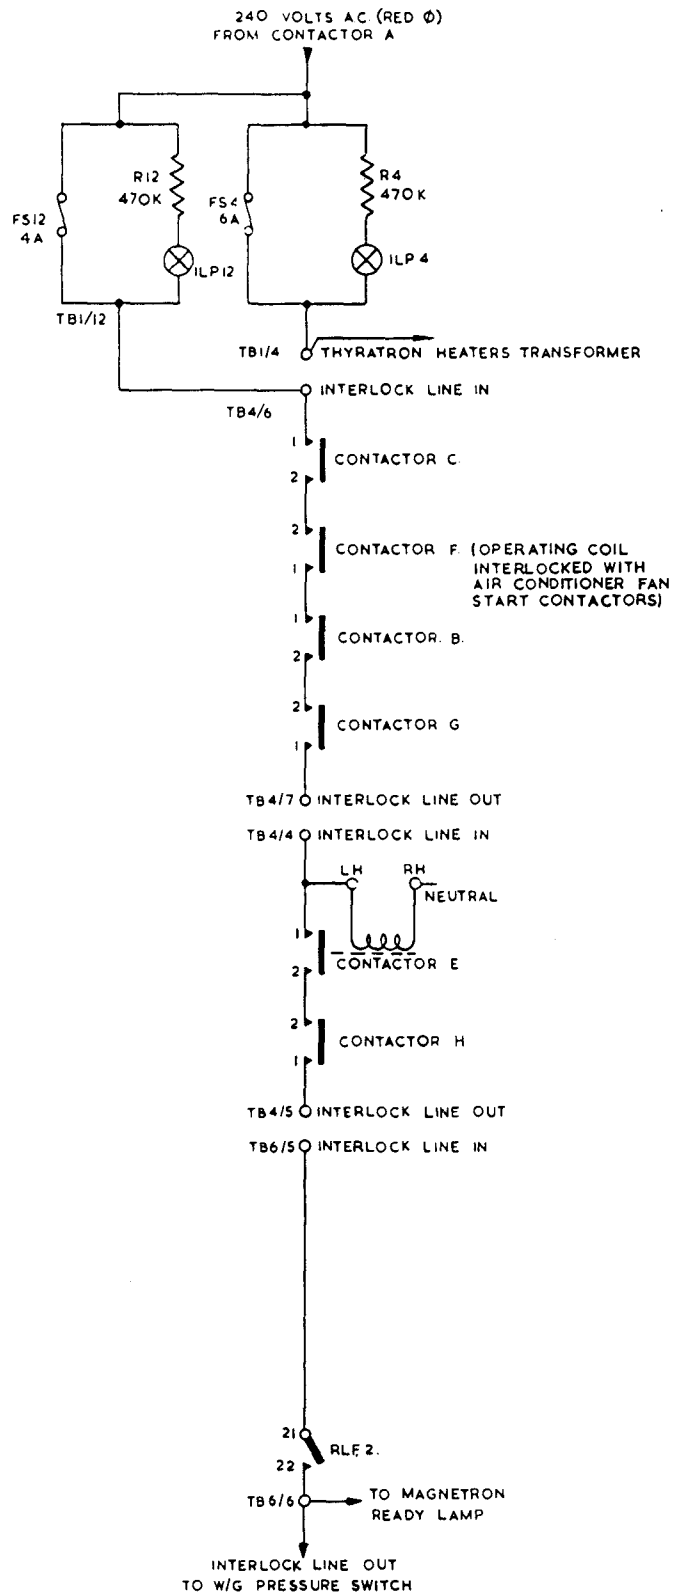

Fig.5 Circuit breaker assembly: interlock circuit
20. A 240V a.c. supply from fuse FS12 is routed via the series-connected interlock devices and is finally fed to operate the e.h.t. contactor (Chap. 1). The auxiliary contacts of contactors B,C,E,F,G and H, form part of this interlock circuit as shown in fig. 5.